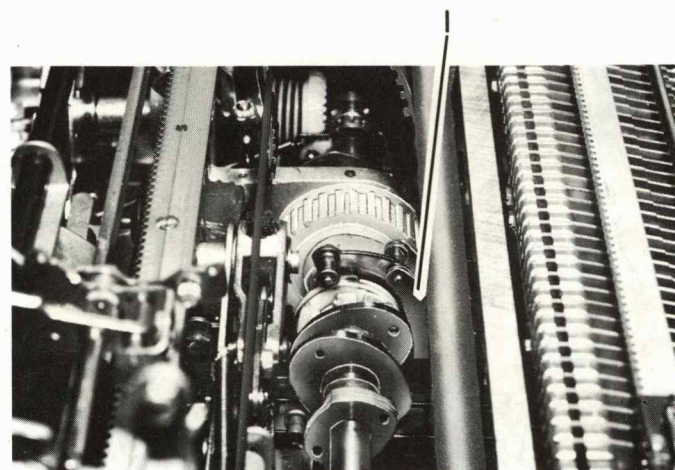
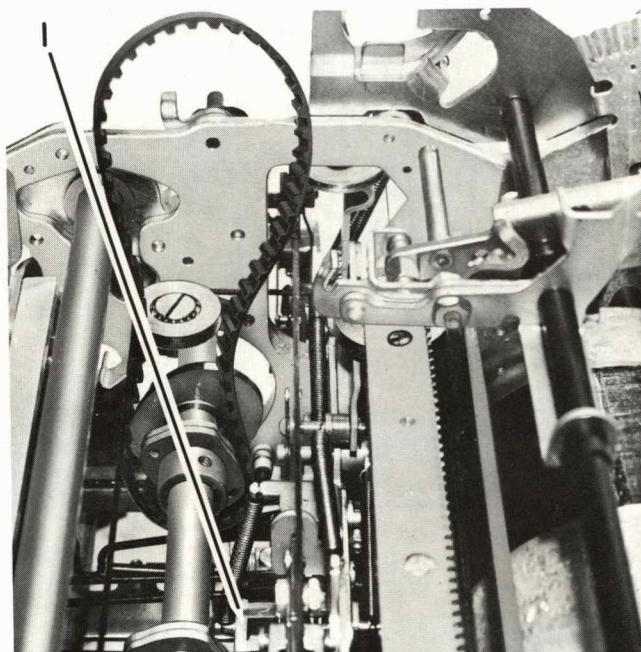

FIGURE 10. Belt Replacement
FIGURE 11. Belt Replacement
12. Force the positive bail down with a screwdriver (#1, Figure 11) making sure all the latches are under the bail.
13. Loosen the two cycle-clutch latch-bracket mounting screws (#1, Figure 10). Slip the new belt through the bearing plate hole, around the shaft, and over across the cycle shaft to the cycle-clutch latch (Figure 11). Work it between the latch and the cycle-clutch sleeve.